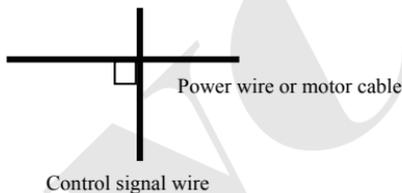

Fig.4-2 System wiring demand
(1) Inverter terminal motor connection wire (U,V,W terminal output wire) and inverter terminal power connection wire (R,S,T terminal input wire) should keep distance enough as possible as can.
(2) U,V,W terminal 3 motor wires should be placed in metal tube or metal wiring tank as possible as.
(3) Generally control signal wire should use shield cable, when shield layer connect to inverter (⊕) terminal, it should be the single end earth grounding which closed to inverter side.
(4) Inverter (⊕) terminal earth grounding cable must directly connect to floor, it cannot connect to earth grounding through other device, and the location of earth grounding should close to inverter as possible as.
(5) Strong current cable (R,S,T,U,V,W) cannot parallel wiring closely with control signal wire, and bundled together is prohibited. It should keep distance from over 20~60 cm (Relative to strong current size). When it's necessary to intersect, it should be orthogonal crossing, show as Fig.4-2.